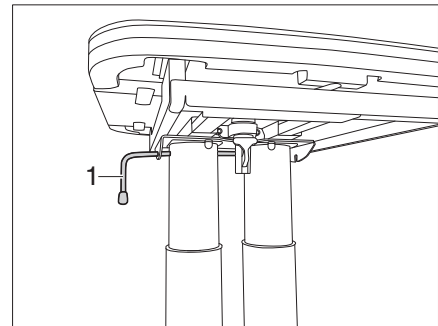

Fig. 109 Lock the table
- Swivel the catch lever (Fig. 109,1) to the right. The lift-off table is locked.
- Release the locking lever (Fig. 109,1).
- Swivel the catch lever (Fig. 109,1) to the left. The lock is open.